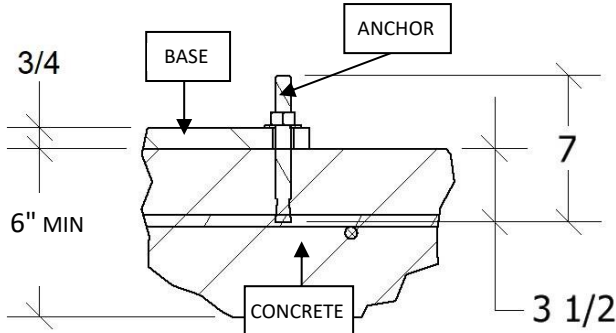

FIGURE 7 : CONCRETE BASE
1. **FLOOR SPECIFICATIONS :** VERIFY AND MEET FLOOR SPECIFICATIONS BEFORE INSTALLATION. SEE **FIGURE 7.**